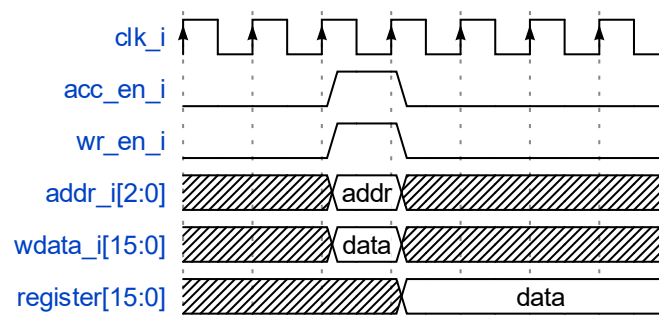
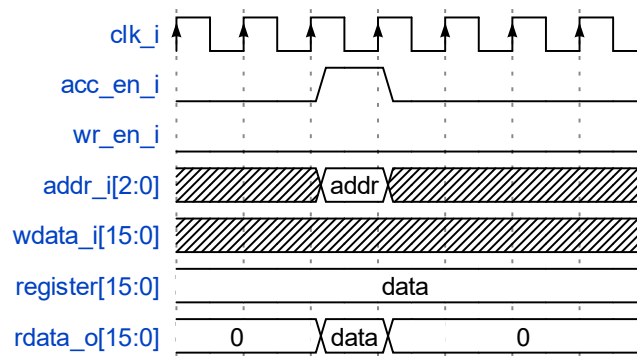

Figure 2 Write access – register is identified using addr
Figure 3 Read access – register is identified using `addr`
The communication interface is used to transfer data to and from the configuration and status registers. A certain register is identified using an address. Those registers can be read only (R), write only (W), or read and write (R/W). The timing for write and read commands is shown in Figure 2 and Figure 3.